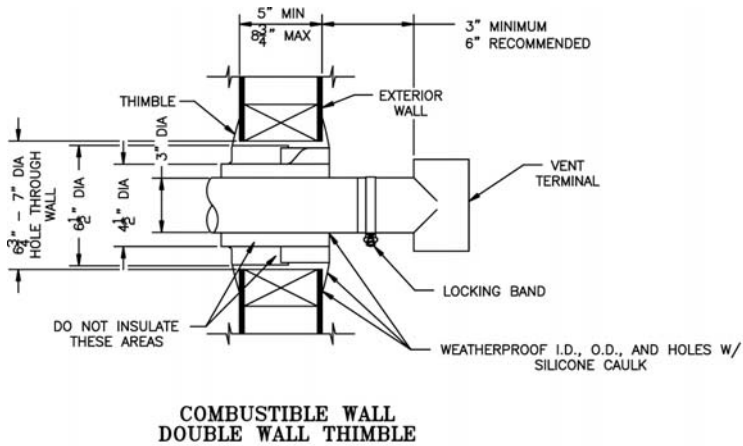

Figure 13: Horizontal Vent Pipe Wall Penetration
5. Join vent terminal to vent pipe. Locate vent terminal between 3" and 6" from wall when joined to inside vent piping. See Figure 13.